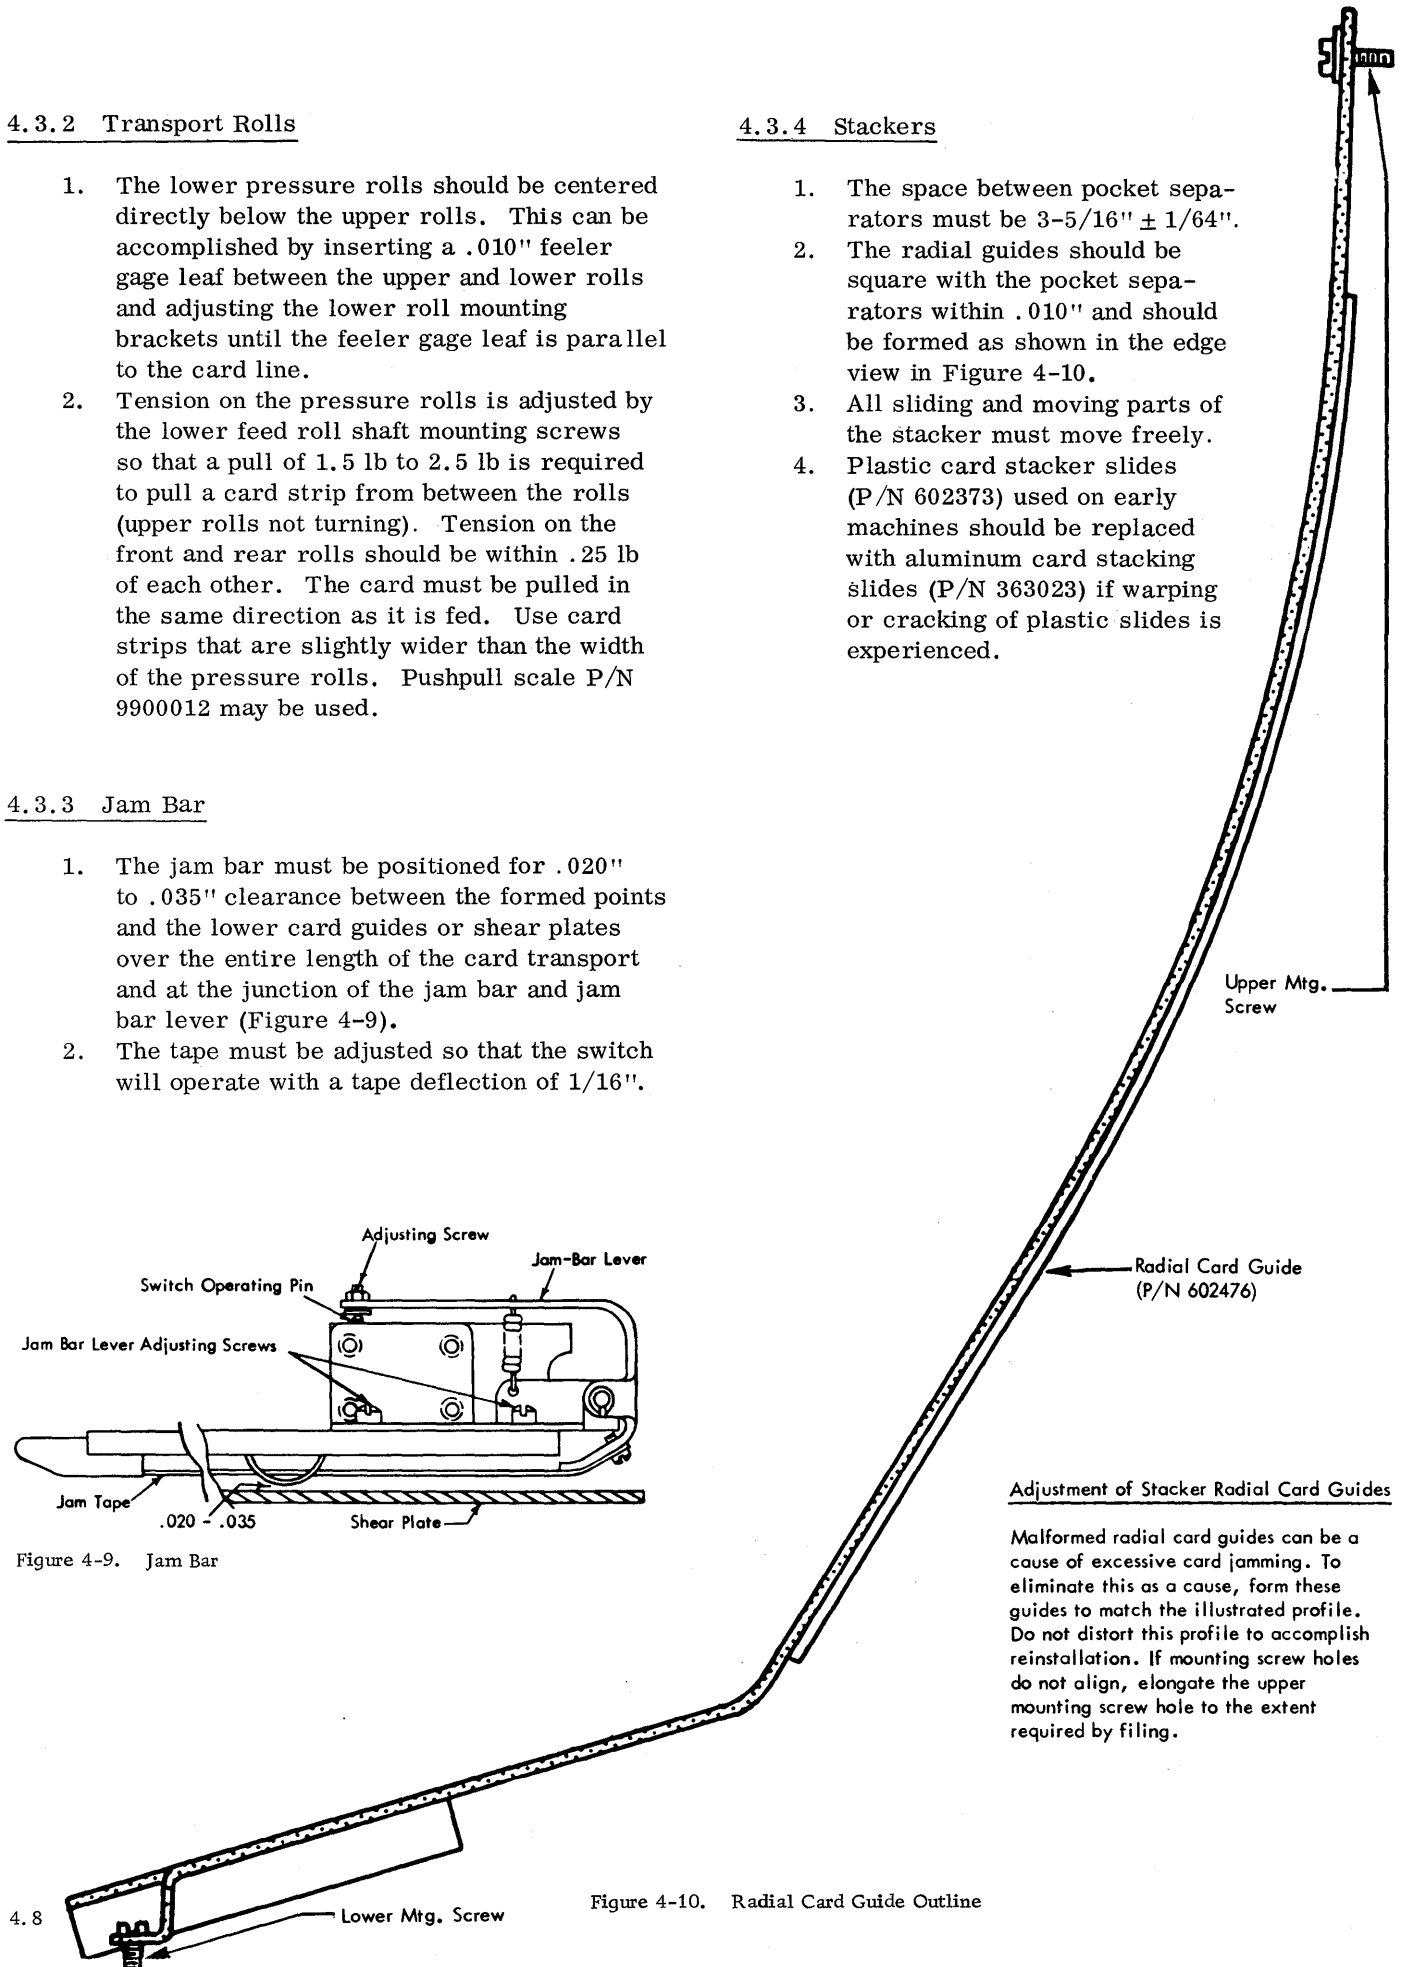

Figure 4-10. Radial Card Guide Outline
2. The radial guides should be square with the pocket separators within .010" and should be formed as shown in the edge view in Figure 4-10.